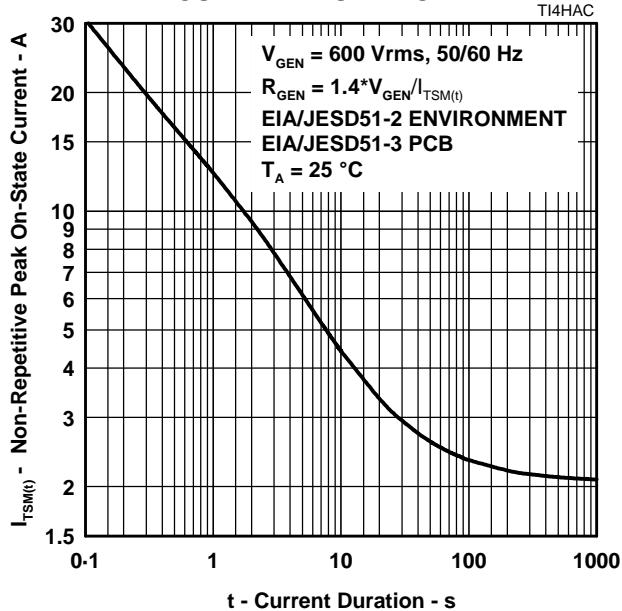

Figure 8.
5. EIA/JESD51-2 environment and EIA/JESD51-3 PCB with standard footprint dimensions connected with 5 A rated printed wiring track widths. See Figure 8 for the current ratings at other durations. Derate current values at $-0.61\%/\text{ }^\circ\text{C}$ for ambient temperatures above $25\text{ }^\circ\text{C}$
The protector can withstand currents applied for times not exceeding those shown in Figure 8. Currents that exceed these times must be terminated or reduced to avoid protector failure. Fuses, PTC (Positive Temperature Coefficient) resistors and fusible resistors are overcurrent protection devices which can be used to reduce the current flow. Protective fuses may range from a few hundred milliamperes to one ampere. In some cases it may be necessary to add some extra series resistance to prevent the fuse opening during impulse testing. The current versus time characteristic of the overcurrent protector must be below the line shown in Figure 8. In some cases there may be a further time limit imposed by the test standard (e.g. UL 1459 wiring simulator failure).